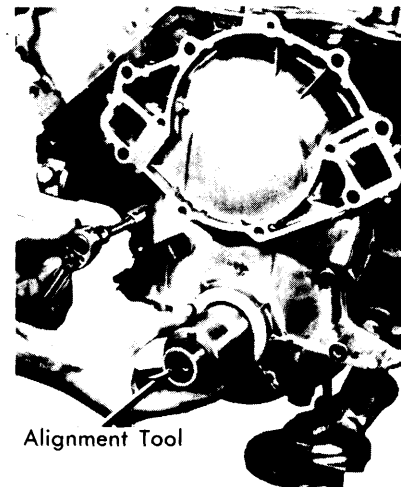

Fig. 14 Aligning the Front Cover
2) Position front cover on cylinder block. **NOTE** — Use care when installing cover to avoid seal damage or possible mislocation. Install front cover to seal alignment tool into proper position as shown in Fig. 14. Install cover attaching bolts, and while pushing in on alignment tool, tighten oil pan-to-cover bolts, and cover-to-cylinder block bolts. To install remaining components, reverse removal procedure.